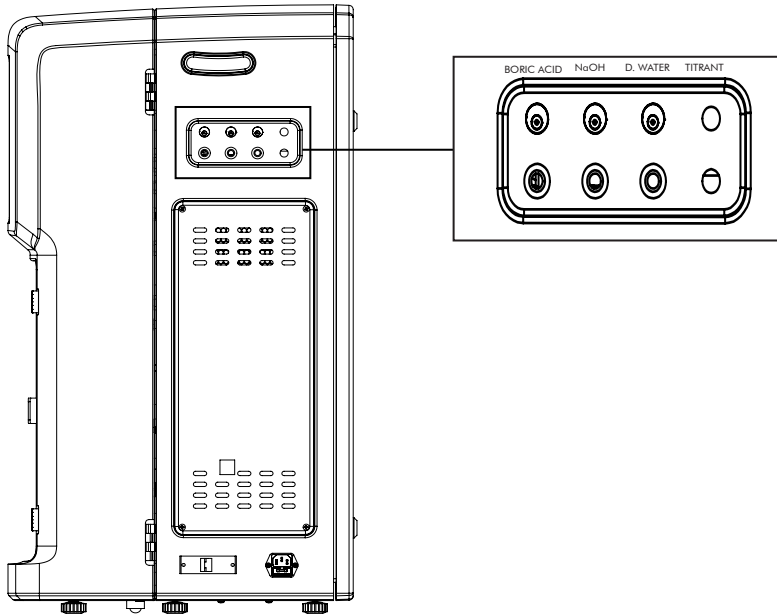

Fig. 21.1
11. For connection of Dosing reagent bottles, insert tubings in their respective cans with level sensor connection on to the unit (Ref. fig. 21.1).